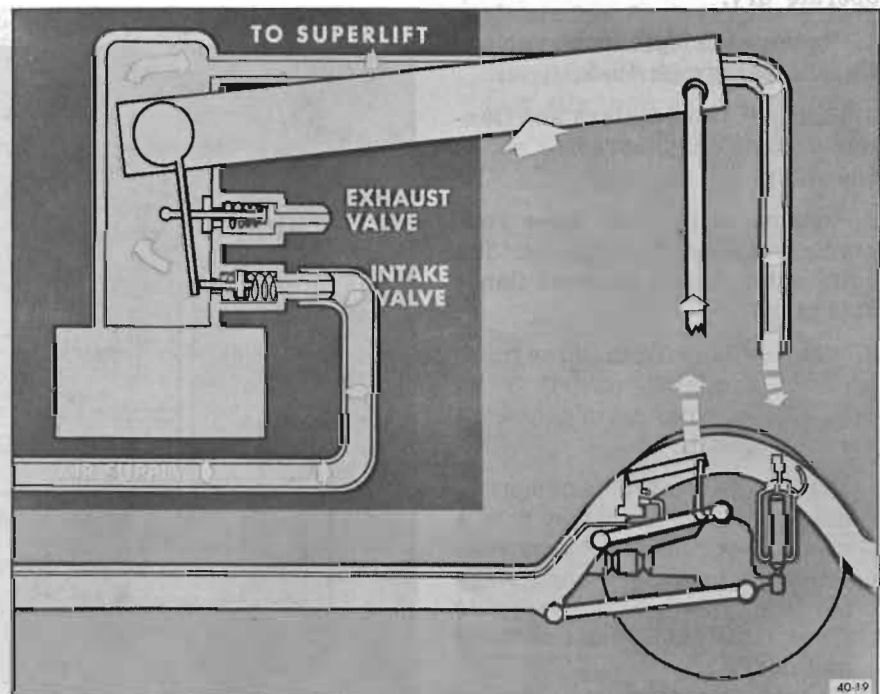

Figure 40-22—Load Added to Car
c. The height control valve, which is mounted on the frame, senses rear car height through a link attached to the rear upper control arm. When load is added to the car, the overtravel lever is forced up causing an internal lever to open the intake valve. See Figure 40-22. When this valve is open, high pressure air is admitted to the Superlift shocks. As the car raises to level (depending upon position of load), the intake valve shuts off.